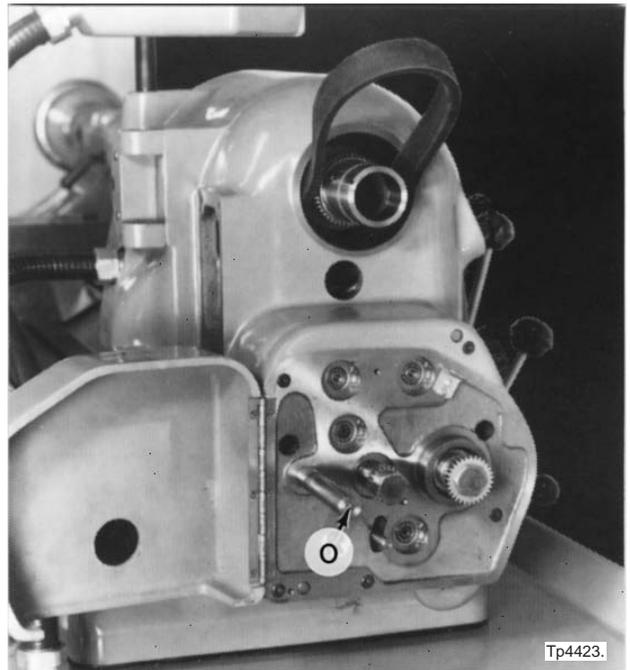

Figure 3.17 - Spindle Belt Removal
32. Unscrew shaft "O", Figure 3.17, with a hex wrench.
Pull the spindle drive belt part way out of the top opening in the rear of the gear box (refer to Figure 3.17, to aid in the passing the narrow width of the spindle belt past the underside of the spindle pulley and over the boss in the gear box housing.
42. Replace shaft "O", Figure 3.17.